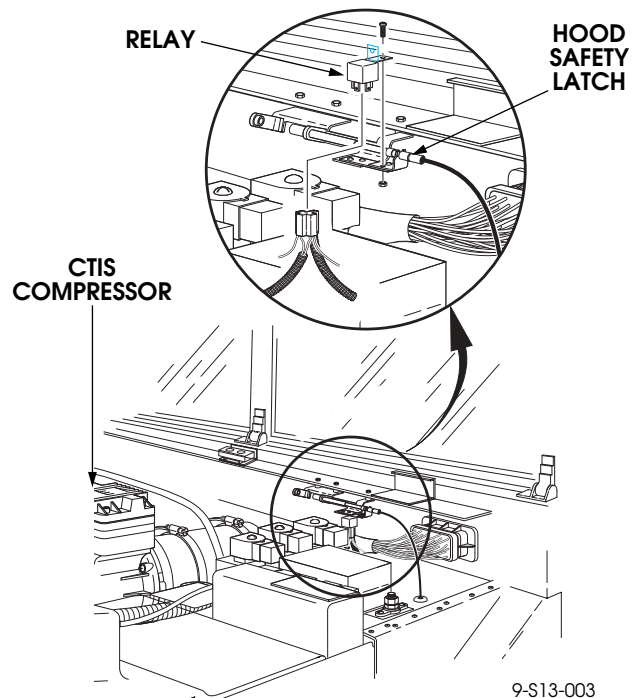

Figure 13-69: Relay Mounting Point, Hood Lock Bracket
5. Bend the relay tab approximately 90 degrees to the relay and mount the relay to the hood safety lock bracket with the existing screw (Figure 13-69). Mount the relay with the wires facing down to prevent moisture intrusion into the relay.